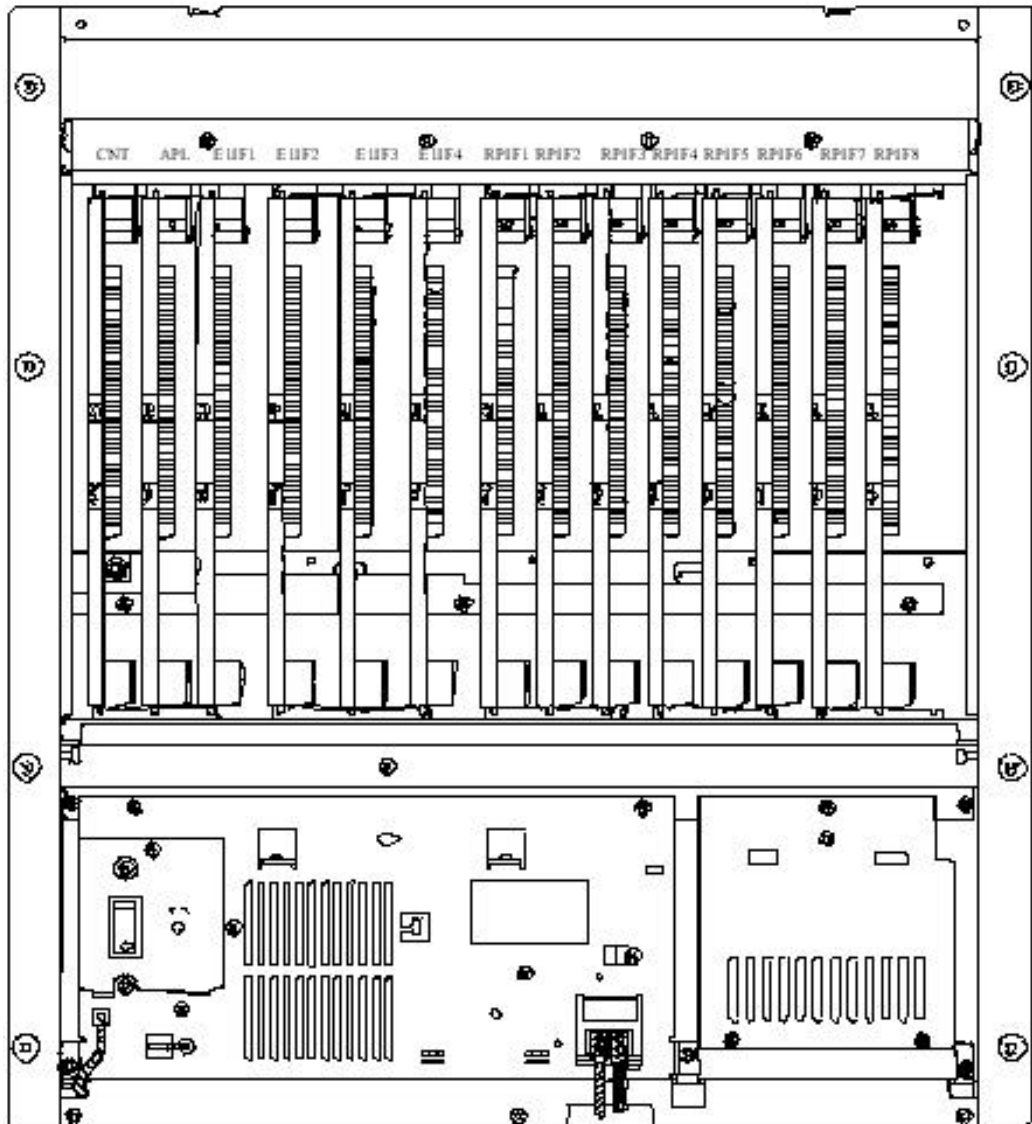

**Figure 2-18: Cabling Example**
10. When the RP and E1 cables are connected, attach the cabling to the supports with tie bands. Refer to Figure 2-18.